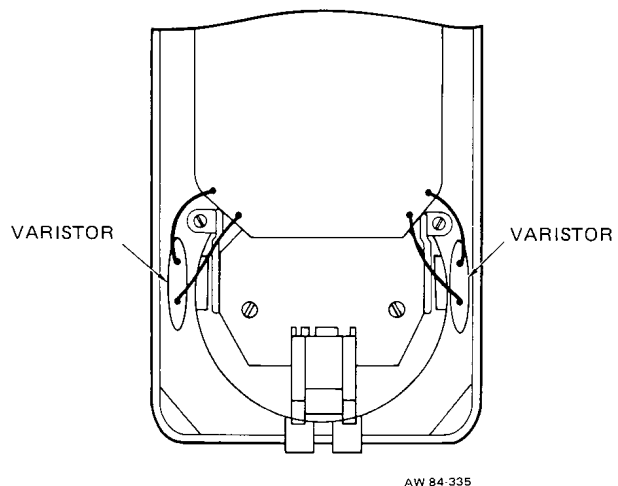

Figure 6: Position of Varistors
- (e) Position the two varistors next to a retainer bracket. (See Figure 6.)